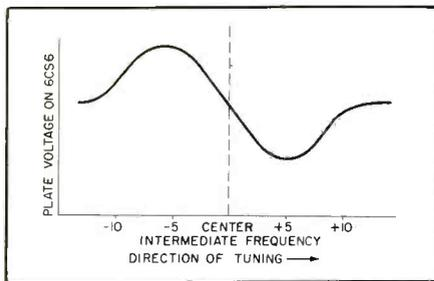
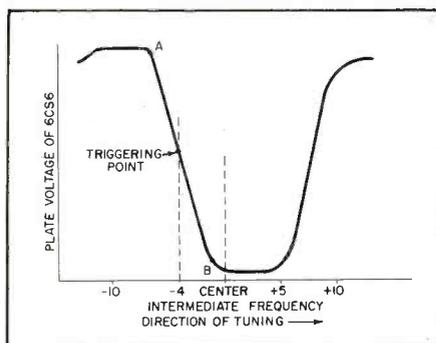

Fig. 5. Curve Indicating Theoretical Operating Characteristics of 6CS6 Phase Detector.
Fig. 6. Curve Indicating Actual Operating Characteristics of 6CS6 Phase Detector in Mopar Model 902.
Were it not for special conditions of operation in this circuit, the curve for the plate-current variation as the frequency changes would be the S-curve shown in Fig. 5. The true plate-current variation is shown in
Fig. 6; and the special conditions which cause this variation are: (1) the cathode bias on the 6CS6 tube is maintained at a point where the tube operates near plate-current cutoff when no signal is being received, (2) the detuning action of the phasing capacitor C21 shifts the waveform to the left by a fixed amount, (3) the 6CS6 tube is operated at a very low plate voltage so that current saturation is reached quickly, and (4) a bias is applied to grid No. 3 as a result of the conduction of the diode in the 6AV6 tube V4.
Compare the curve of Fig. 6 to that of Fig. 5. The positive portion of the S-curve has been flattened as a result of the cutoff of plate current. Note that the entire curve has been shifted to the left. This means that the sharp negative excursion of voltage occurs when the frequency of the IF signal is lower than the resonant frequency of the transformer. The shift is a result of the action of the phasing capacitor C21. Note also that the negative portion of the S-curve is enlarged in Fig. 6. The signals represented by this negative portion are
The abrupt negative excursion represented by that portion of the curve between A and B in Fig. 6 is the signal needed to cut off the relay-control tube. The triggering point, also shown in Fig. 6, is the point at which the relay-control tube V6B is cut off and at which the search relay is de-energized. Between this triggering point and the center of the IF passband there are normally about four kilocycles, but this number varies depending upon the speed of the tuning mechanism.
If the speed of the tuning mechanism is slow, the voltage change on the plate of the 6CS6 tube will represent a lower frequency; and therefore, C25 will offer a higher impedance to this voltage change. As a result of this condition, the voltage level on the plate of the 6CS6 tube must go to a lower value before the required triggering voltage on the 12AU7 relay-control tube is reached. In Fig. 6, it can be seen that the lower plate voltage on the 6CS6 tube may be obtained at, let us assume, two kilocycles below the center frequency. Since the tuning mechanism is running at a slower speed, however, it will coast only two kilocycles before coming to rest; hence, accurate tuning is preserved.